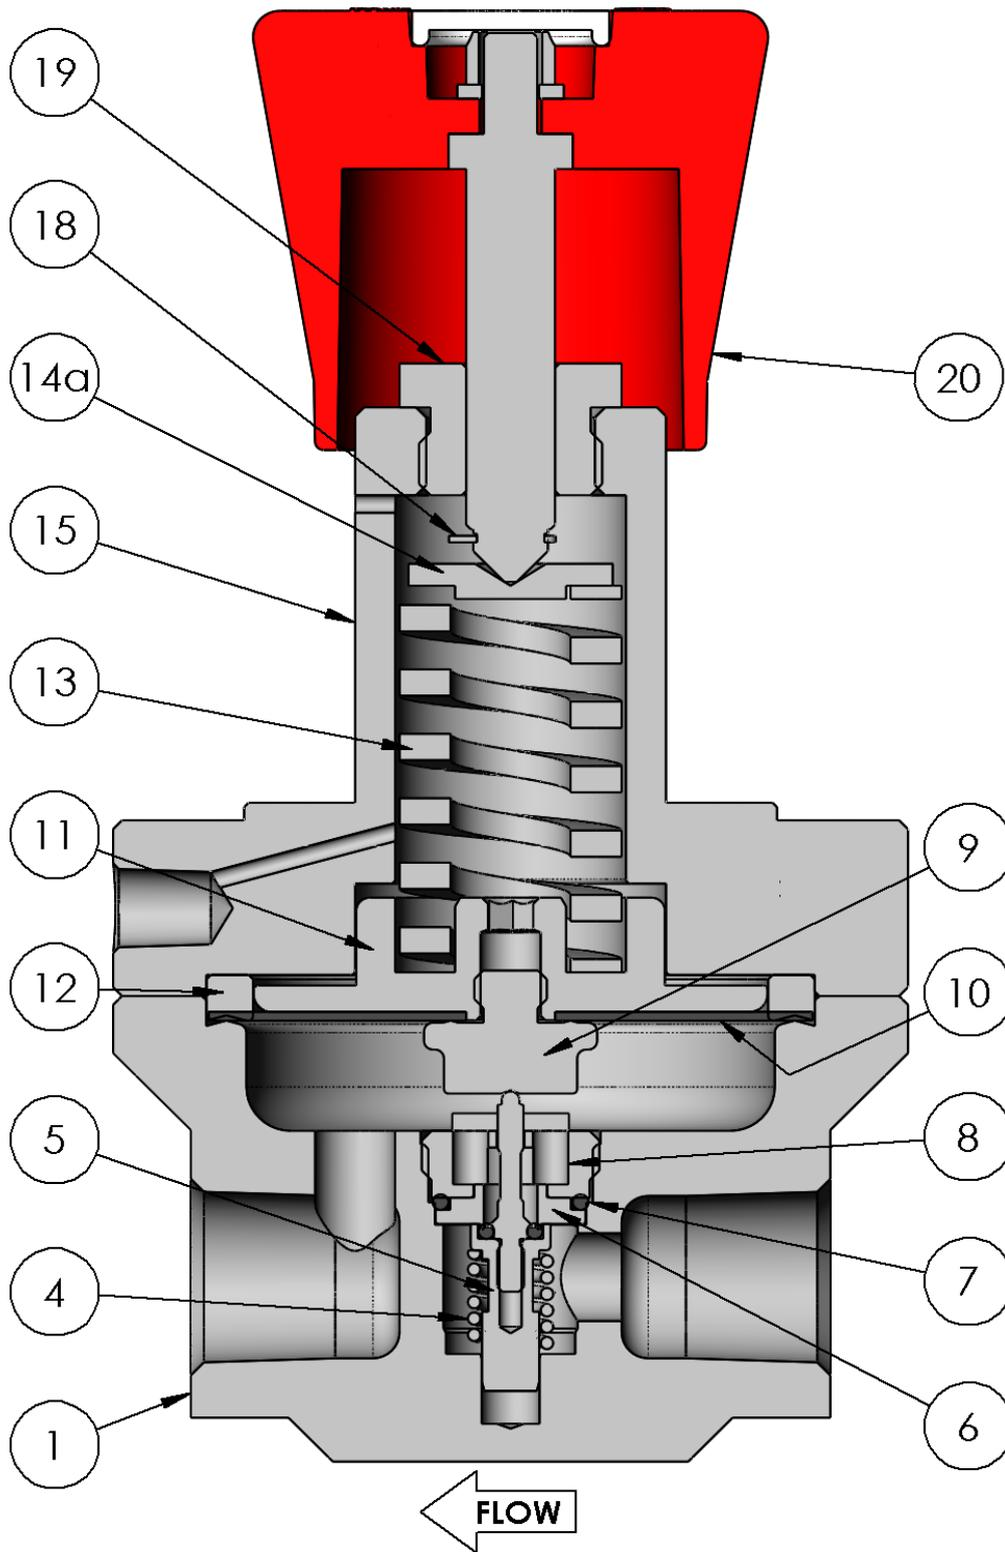

Fig 2
1. Secure the body (1) in a vise.
2. Insert the poppet spring (4), poppet (5), seat (6), and seat O-ring (7) into the body. Ensure correct orientation of the seat per Fig 2 and that no damage occurs to the sealing surface.
3. Lightly lubricate the seat retainer threads (8) and install into the body (1) using the seat retainer insertion tool. Torque to 3.7 lbf·ft (5 N·m).
4. Lightly lubricate the diaphragm screw threads (9). Fit the diaphragm (10) onto the diaphragm screw (9) then screw this into the bottom spring guide (11). For PTFE lined diaphragms the PTFE side must face away from the spring guide. Torque to 7 lbf·ft (10 N·m).
5. Insert the sensing assembly into the body (1). Orient per Fig 2.